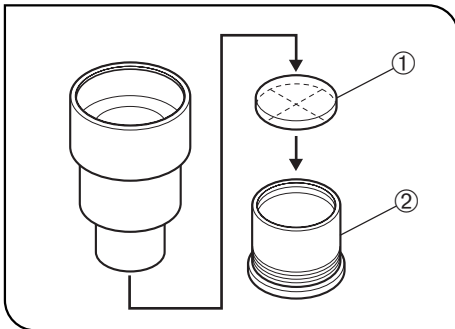

Fig. 27
(Fig. 27)
- Remove the micrometer sleeve ② and fit the micrometer ① into the eyepiece with the indication side facing down as shown in Fig. 27. Replace the micrometer sleeve to use the micrometer.